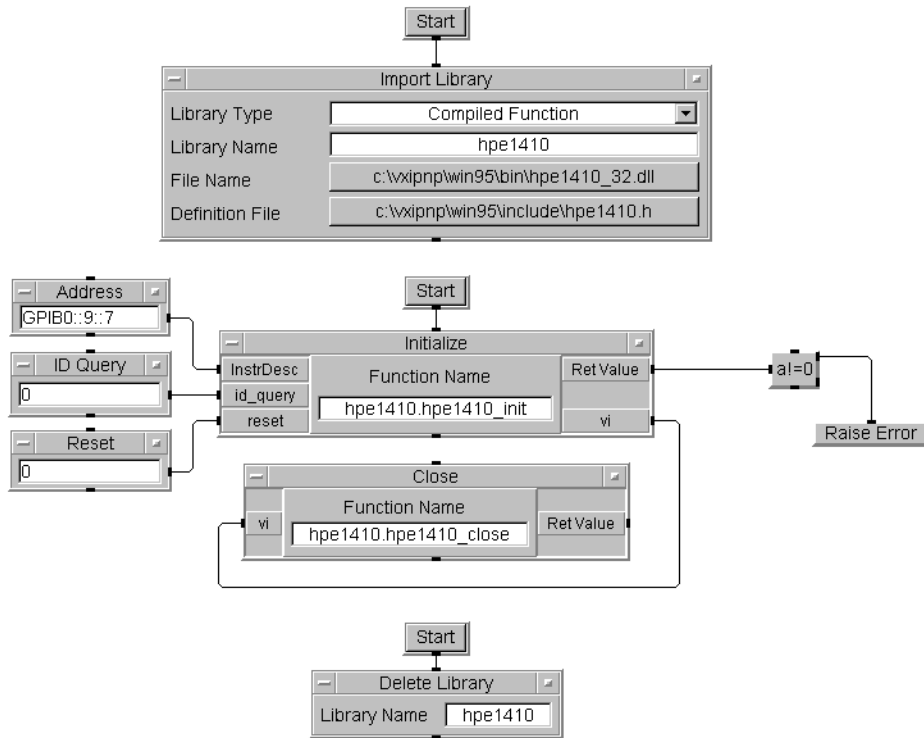

**Figure 7-7. Simple Example: Using VXIplug&play Drivers**
**A Simple Example** Figure 7-7 is an example program using a *VXIplug&play* driver in VEE. This program imports the library, initializes the device, closes the device, and deletes the library. (Each program thread is started independently with a *Start* button.)